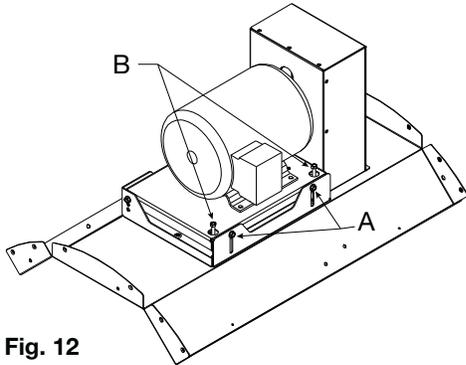

Fig. 12
- Check belt tension. Belt tension can be adjusted by loosening two fasteners marked “A” in Fig. 12 below. The motor plate can then be adjusted up or down using the two adjustment bolts marked “B” in Fig. 12. Ensure that both adjustment bolts are altered by the same number of turns. Belt tension should be adjusted to allow 1/64 inch of deflection per inch of belt span. For example, a 15 inch belt span should have 15/64 inch (or about 1/4 inch) of deflection with moderate thumb pressure at the mid-point between pulleys (see Fig. 13). Overtightening will cause excessive wear and noise. Too little tension will cause slippage at start-up and uneven wear. Retighten “A” once tension is correct.